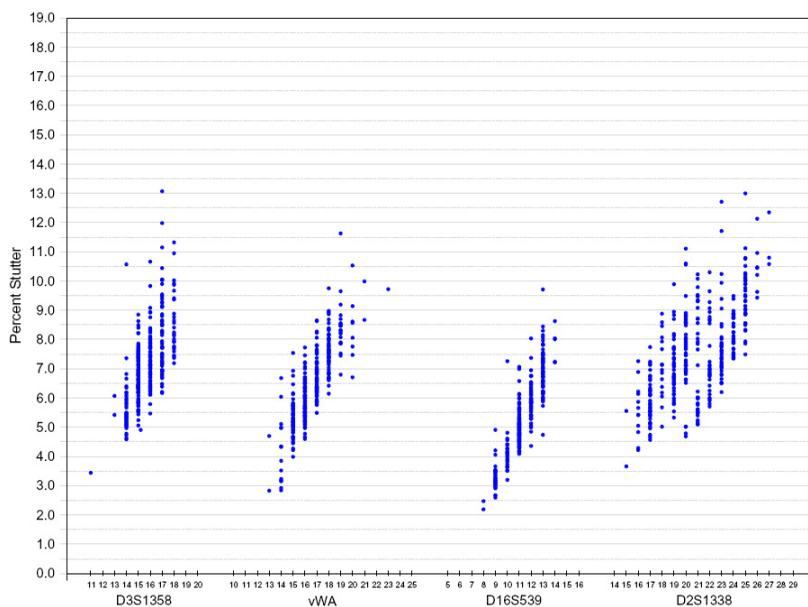
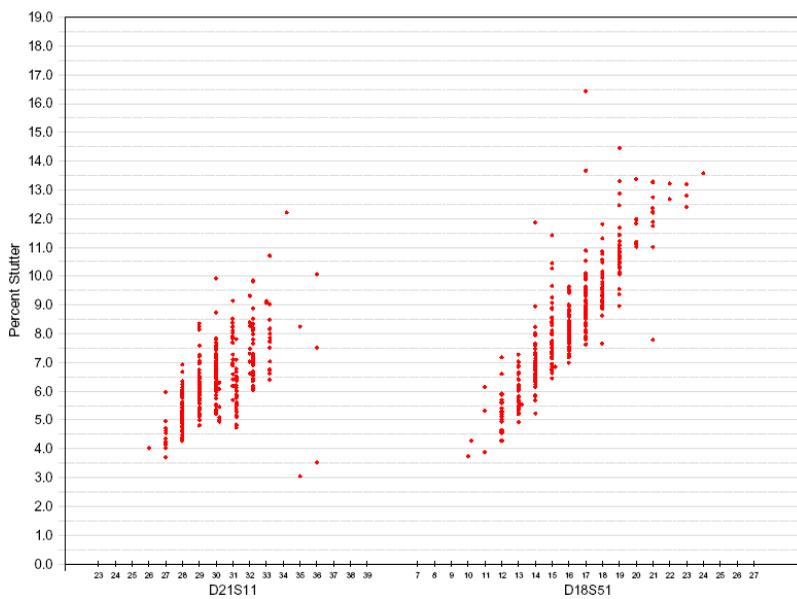

Figure 5-5 Stutter percentages for the D3S1358, vWA, D16S539, and D2S1338 loci
Figure 5-8 Stutter percentages for the D21S11 and D18S51 loci
- For each SEfiler Plus kit locus, the percent stutter generally increases with allele length, as shown in Figure 5-5 to Figure 5-8 on pages 5-22 through 5-24.